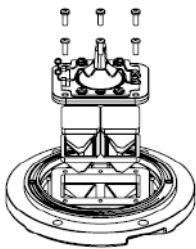

Figure 5-13
- Dismount the M5×16 screws on the upper cover and remove the dead plate of the lamp, lamp, filter and prism washer fixed with the prism pressing bracket (see Figure 5-13).